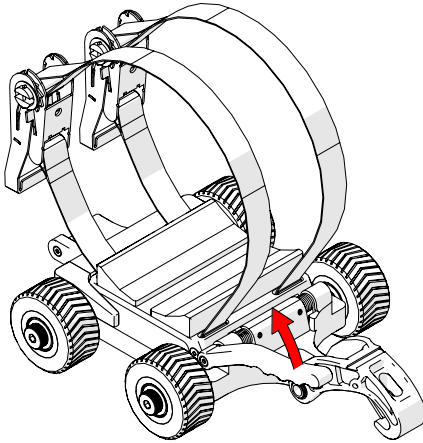
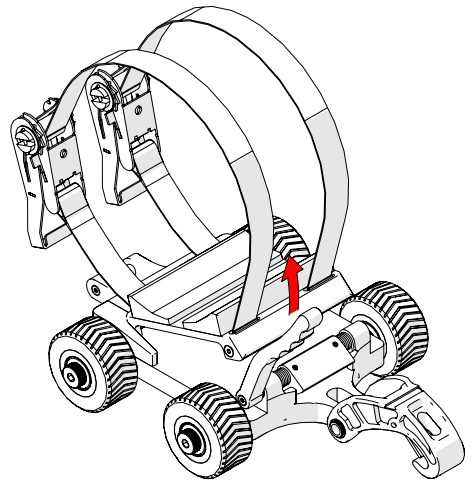

Fig. 59 - Lift lever to release mounting plate
Fig. 60 - Slightly angle mounting plate to remove
1. Lift the lever on the source cart base (Fig. 59) to remove the mounting plate (Fig. 60).